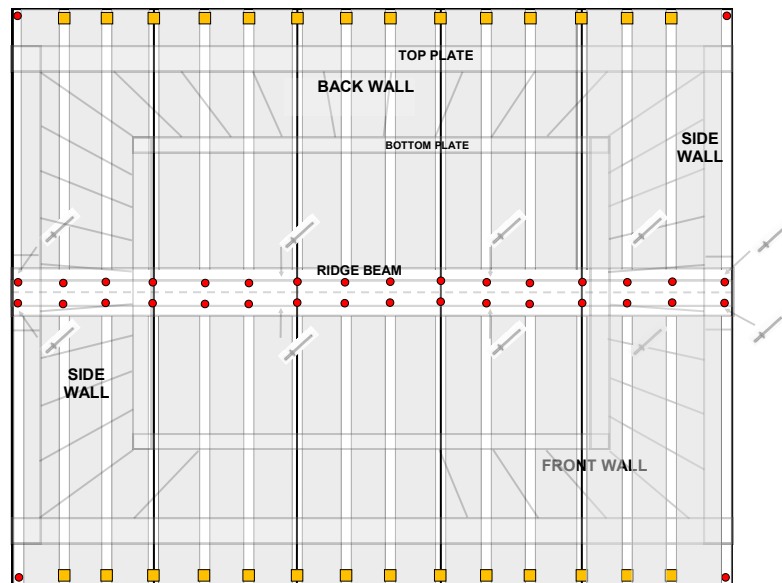

fig.2
Use the 50mm Clouts only on ribs covered by flashings, shown on pg 13 fig.2.
- Secure with 2 x 75mm screws through the top of the Jack Studs into the Timber Top Plate (fig. 2).
- Rivet the 2 Ridge Caps together using 4 rivets, so total flashing is 2.550m long. Rivet the Ridge Cap to the centre of the roof using 8 x rivets as shown (fig.2).